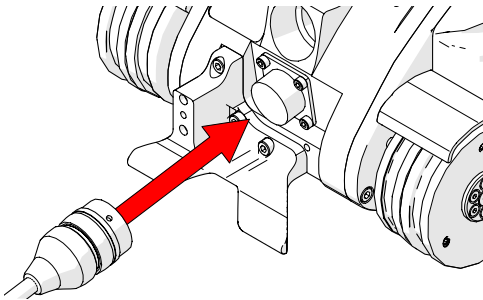

Fig. 57 - Connect to umbilical
1. Align the pins of the umbilical to the connector at the rear of the SKOOT HT (*Fig. 57*).